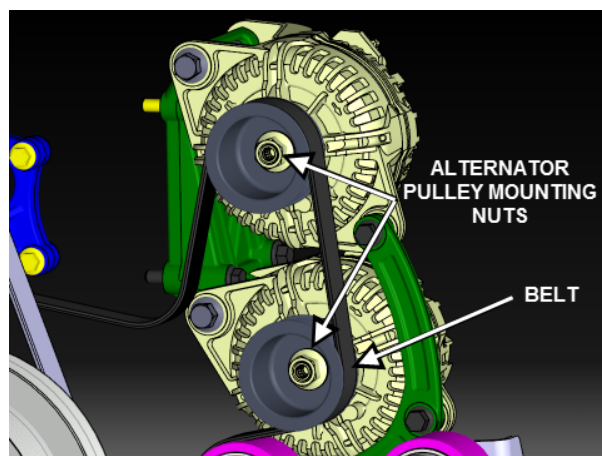

FIGURE 39
1. Unscrew the alternator pulley mounting nut (FIGURE 39).